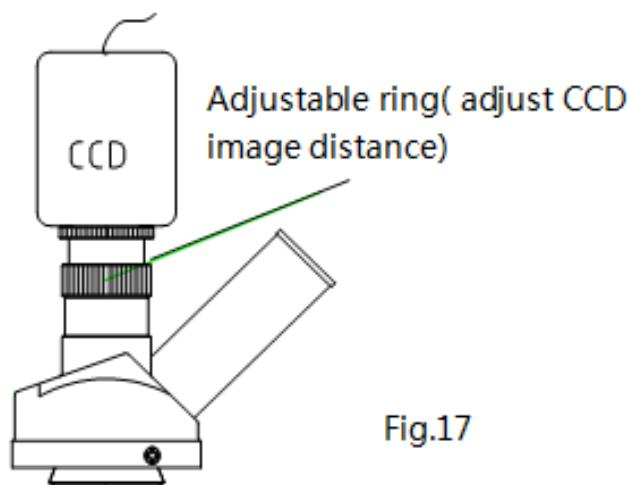

Fig.17
- 8.3 The installation of an external CCD (for TV observation or trinocular head) firstly adjusting microscope to clear field of view, Connecting CCD base with CCD moving into TV tube, "TV / Video" (TV / AV) is set to "AV", as video display, rotating adjustment ring (Fig 17), the video will be clear.